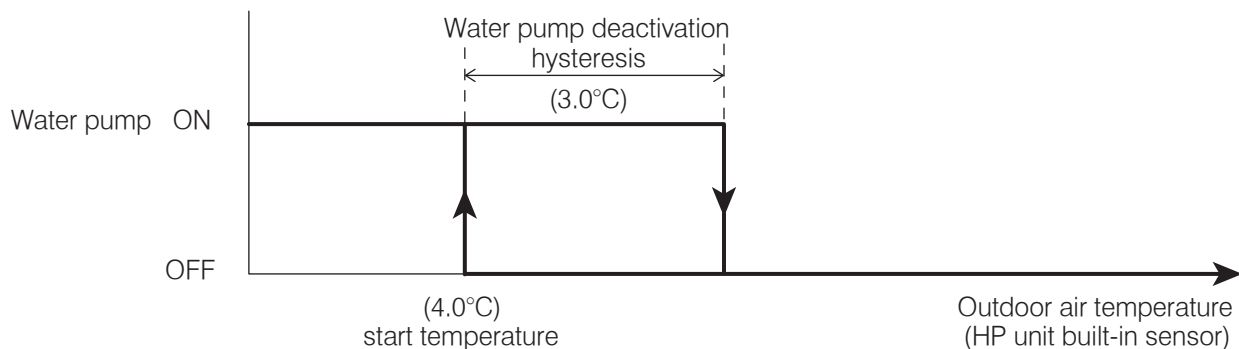

Figure 8-10: Frost protection (outdoor air temperature) - water pump
- Outdoor air temperature - refer to Section 8.4.1 and Figure 8-10.